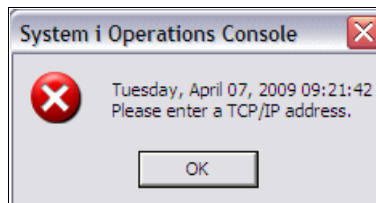

Figure 7-38 IBM System i operator console
5. If this is a first-time connection, the console will respond as shown in Figure 7-38 on page 285.